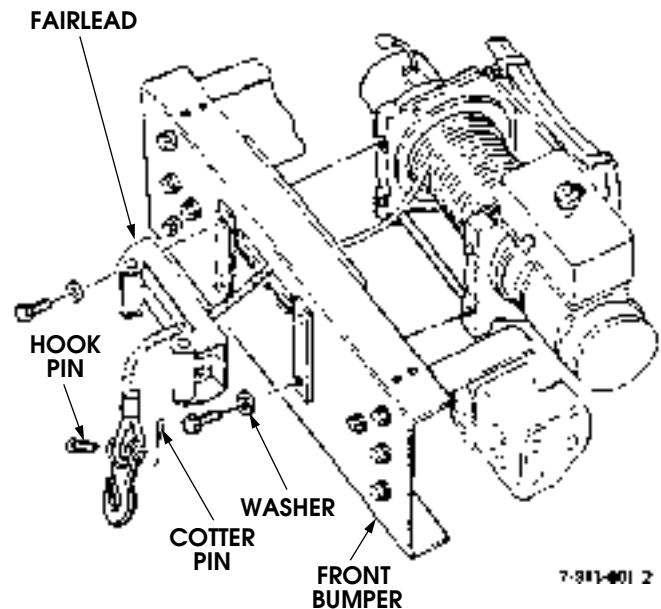

Figure 9-183: Winch Fairlead
2. Remove washers, bolts, and the roller fairlead from the front bumper (Figure 9-183).
1. Install the fairlead on the front bumper with washers and bolts. Tighten bolts to 60 lb-ft (81 N•m) (Figure 9-183).